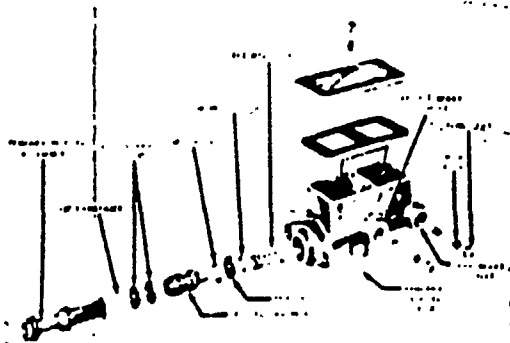

Fig. 33 Bendix Type - Master Cylinder Components.
B. American Motors and Studebaker Installations (see fig. 33)